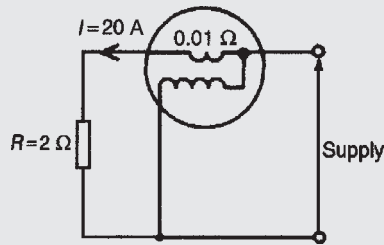

Figure 12.11
connected as shown in Fig. 12.11. Determine the wattmeter reading.
2. (a) A current of 15 A flows through a load having a resistance of 4Ω . Determine the power dissipated in the load. (b) A wattmeter, whose current coil has a resistance of 0.02Ω , is connected (as shown in Fig. 12.11) to measure the power in the load. Determine the wattmeter reading assuming the current in the load is still 15 A.